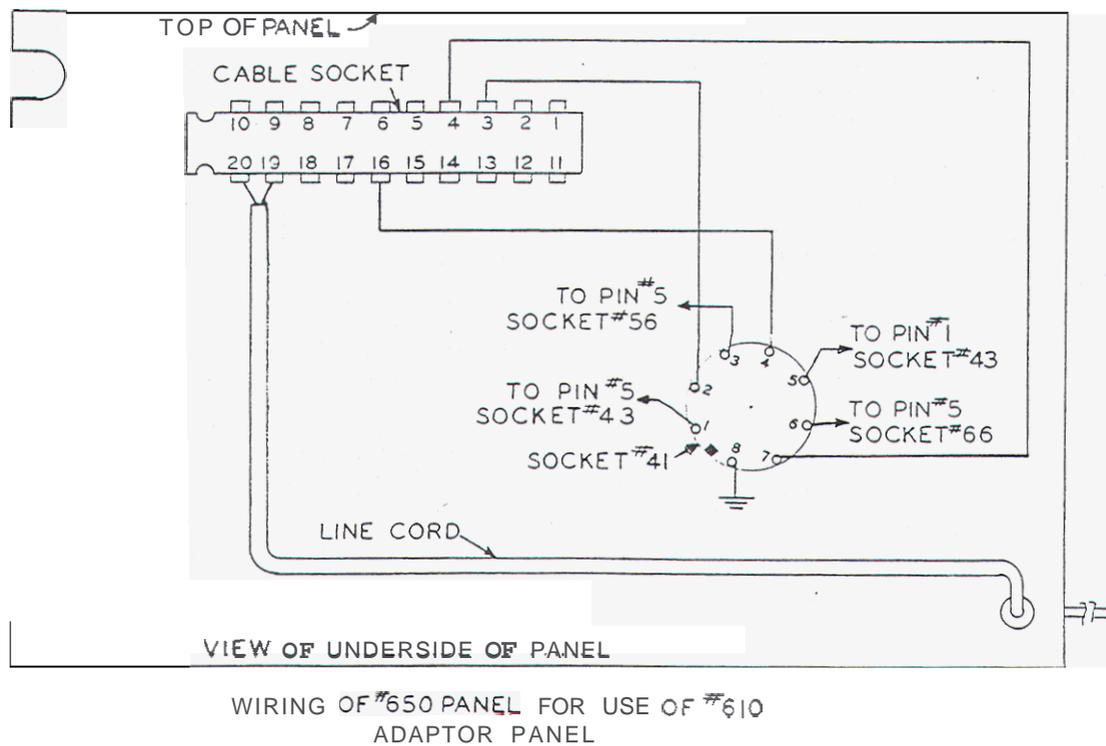

Fig. 2
Socket 41 should be wired as shown in Fig. 2.
- 1. Connect a 16½" piece of #22 insulated wire from pin #3 of the 83 rectifier socket to pin #17 of the inter-chassis cable connector. Both are located on the main panel. The socket terminals *for* both the main panel and the left hand panel inter-chassis connectors are numbered in the same manner. This is shown in Fig. 2 of your 610-650 instruction sheet. Solder both connections.
- 2. Connect a 11" piece of #22 insulated wire between pin #8 of the 024 socket to be wired, to pin #17 of the inter-chassis cable connector on the left hand panel. Again refer to Fig. 2 of the 610-650 instructions for numbering sequence. Solder both connections.